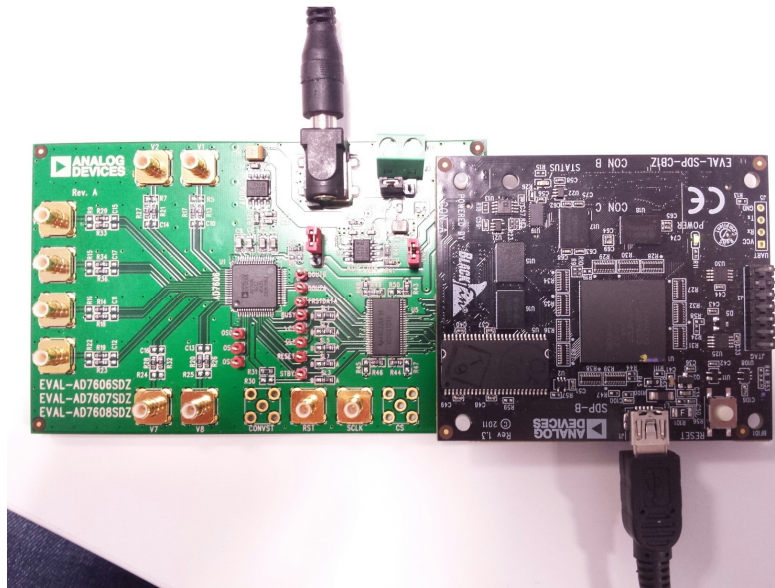

Figure 2. Evaluation Board (Left) Connected to the SDP Board (Right)
3. Connect the EVAL-SDP-CB1Z SDP board to the evaluation board as shown in Figure 2. Screw the two boards together using the enclosed nylon screw/nut set to ensure that the boards connect firmly together.